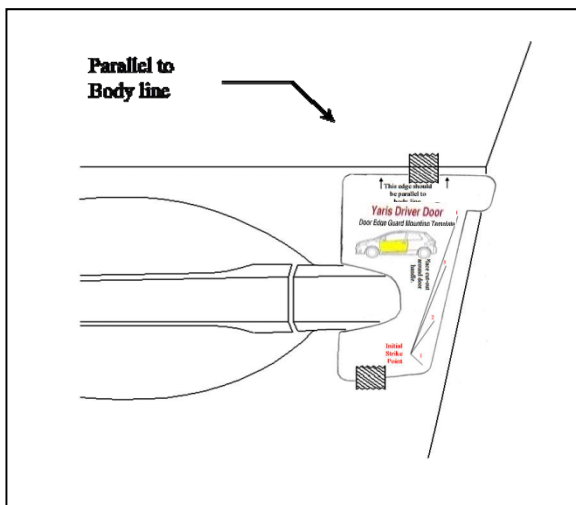

Fig. 1-3
- (b) Select the driver door template and fit the notch around the door handle. Adjust it as needed to ensure it is parallel to the body line directly above the template. If needed, tape it into place using painter’s masking tape (Fig 1-3).